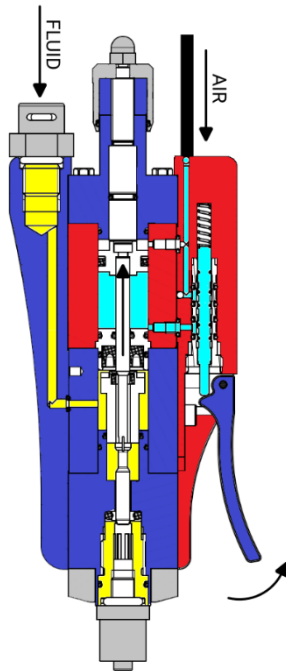

Figure 03 – Resting phase
- The fluid is ready to exit into its special chamber (Figure 03);